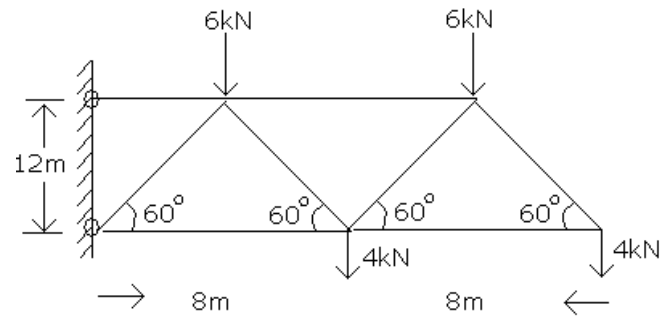

Figure 5
5. Find the forces in all the members of the warrentype Cantilever truss shown in Figure 5 by the method of sections. Tabulate the values. [16]